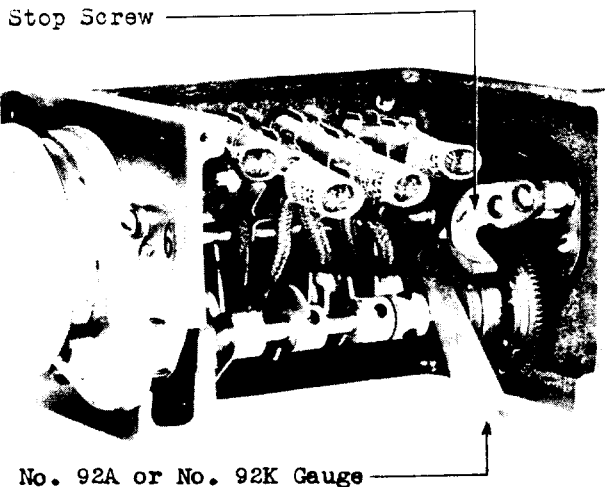

Fig. 5 - Checking Stop Screw Position
inserted between the stop screw and the leading face of the cam shaft arm and the cam shaft gear rotated until the gauge fits snugly between the stop screw and the cam shaft arm, the mercury in the switch which is nearest to the stop screw shall not touch the contacts. To check the requirement, use the No. 92K gauge as shown in Fig. 5.
inserted between the stop screw and the leading face of the cam shaft arm and the cam shaft gear rotated until the gauge fits snugly between the stop screw and the cam shaft arm, the mercury in the switch which is nearest to the stop screw shall touch the contacts. To check the requirement, use the No. 92A gauge as shown in Fig. 5.
- (1) To adjust the position of the stop screw, loosen the stop screw lock nut, when equipped, with the No. 539A wrench. Hold the end of the No. 92J gauge against the end of the stop screw and turn the cam shaft until the gauge is held in position by the cam shaft arm, as shown in Fig. 5.
- (2) Use the 3" cabinet screwdriver and turn the stop screw clockwise or counterclockwise, as required, until the mercury in the D switch is not touching the contacts, but with the switch moved perceptibly from its normal position. Tighten the stop screw lock nut securely.
- (3) Check that the D switch closes when the No. 92E gauge is used, instead of the No. 92J gauge. If necessary, loosen the lock nut and turn the stop screw until the requirement is met with the No. 92E gauge. Tighten the lock nut securely.